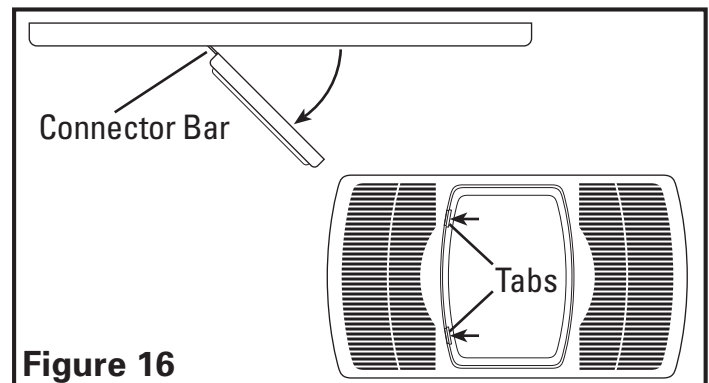

Figure 16
- Changing the Light Bulb:** Disconnect power to the unit. Open light lens by pushing in on the two tabs of light lens and pulling outward from lens. The lens will swing open on the connector bars. DO NOT remove the lens from the grill (**Figure 16**).